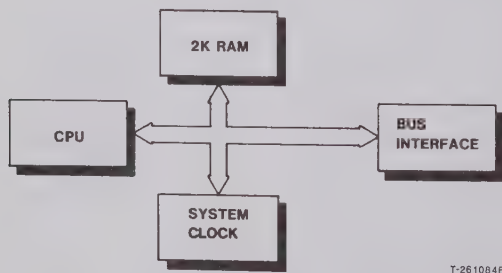

Fig. 12 - CPU Board Functional Block Diagram
5.25 The CPU board (see Fig. 12) contains a Z80 microprocessor, 2K (2,048) bytes of volatile static RAM, and the interface circuitry with the 56-pin STD bus.